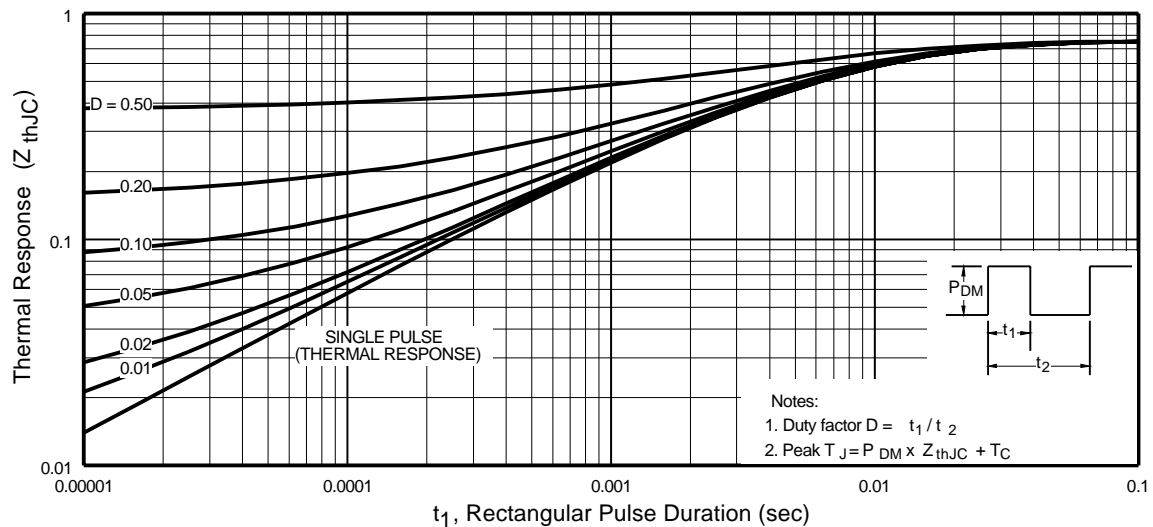

Fig 11. Maximum Effective Transient Thermal Impedance, Junction-to-Case
- ① Repetitive rating; pulse width limited by max. junction temperature. (See fig. 11)
- ② Starting $T_J = 25^\circ\text{C}$, $L = 260\mu H$